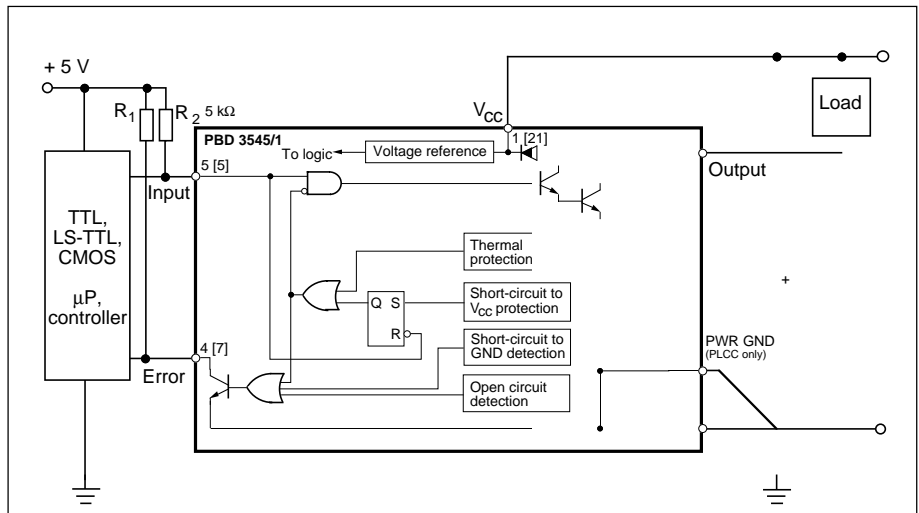

Figure 19. Typical application. Pin numbers refer to TO 220 package.
3. Connect Input and Error via pull-up resistors to the appropriate logic supply level or V_{CC} to obtain highest noise immunity. See figure 19. The resistor R_1 limits the current into the Error indicating pin. This current must not exceed 8 mA. R_2 is a pull-up resistor which improves noise immunity at the Input. Pull-up current should not exceed the sinking capacity of the controlling device output.